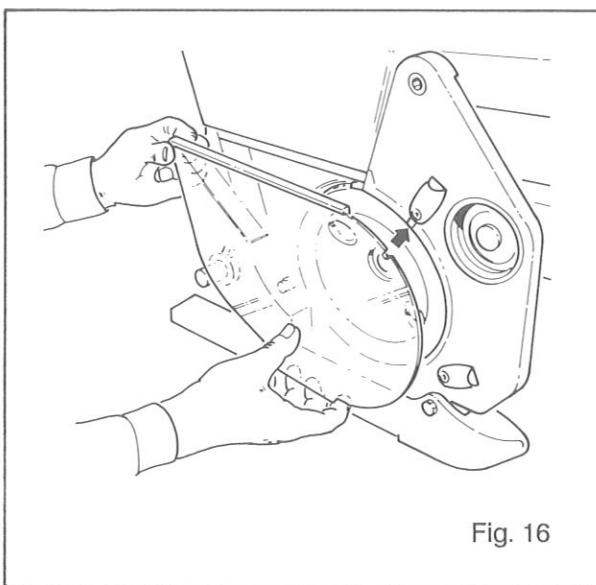

Fig. 16
- Fit the face plate as shown in Fig. 16.